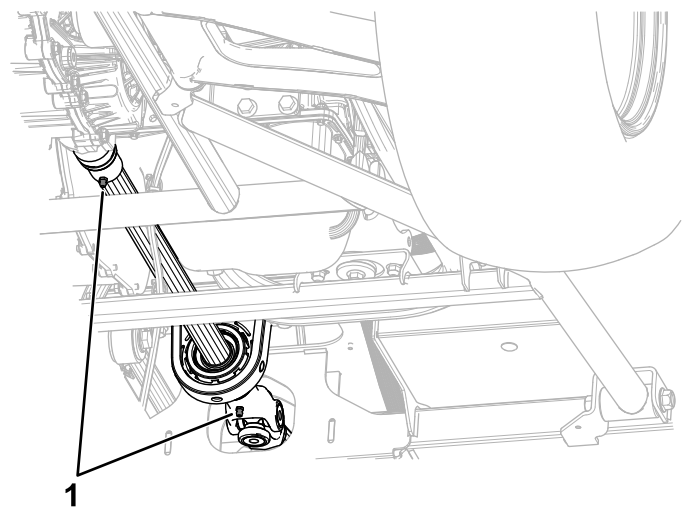

Figure 96
- **Drive shaft (2);** refer to Figure 96